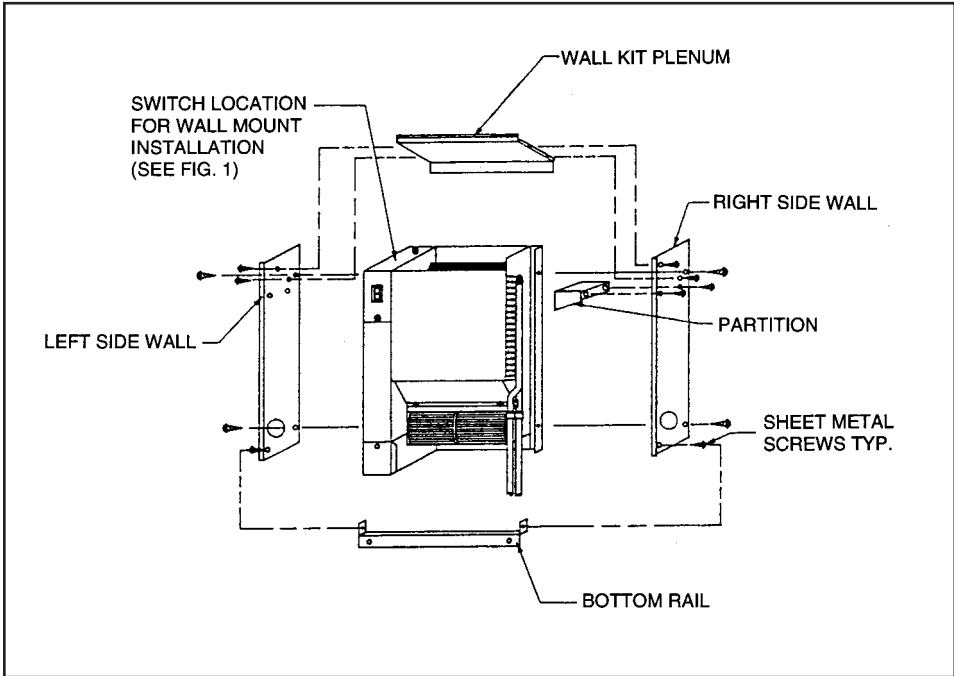

Figure 3. Frame assembly
3. Attach both side panels (flange facing outward) to the base of The Kicker with (4) #8 x 1/4" screws provided. See Fig. 3.
4. Attach bottom rail, plenum and partition to each side with (8) #8 x 1/4" sheet metal screws provided. See Fig. 3.